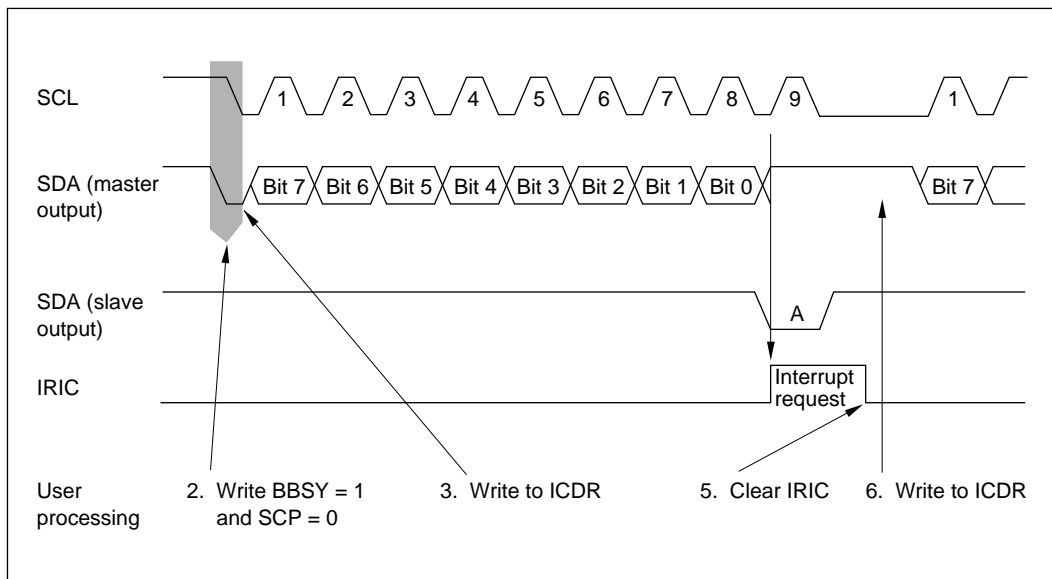

Figure 10-3-5 Timing in Master Transmit Mode (MLS = WAIT = ACK = 0)
3. Write data in ICDR. The master device outputs the written data together with a sequence of transmit clock pulses at the timing shown in figure 10-3-5. If FS is 0 in SAR, the first byte following the start condition contains a 7-bit slave address and indicates the transmit/receive direction. The selected slave device (the device with the matching slave address) drives SDA low at the ninth transmit clock pulse to acknowledge the data.